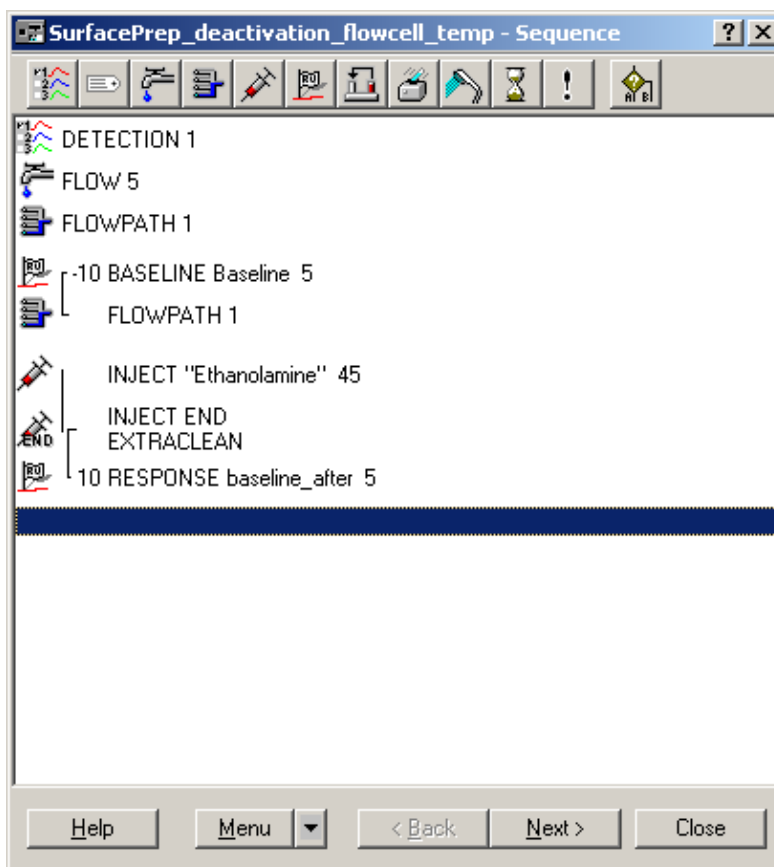

Figure 4.2
- 4.4.1 This will open up the sequence window (Fig. 4.2).
- 4.4.2.5 Sequence Window (Fig 4.2) will be displayed.
- 4.4.3.5 Sequence Window (Fig 4.2) will be displayed
- 4.4.4.3 Type in the information as shown in the Report Point window (Fig. 4.2.
- 4.4.4.6 Sequence Window (Fig 4.2) will be displayed.
4.4.8 Sequence Window (Fig 4.2) will be displayed
4.4.9.3 Click OK. Sequence window (Fig. 4.2) will be displayed.